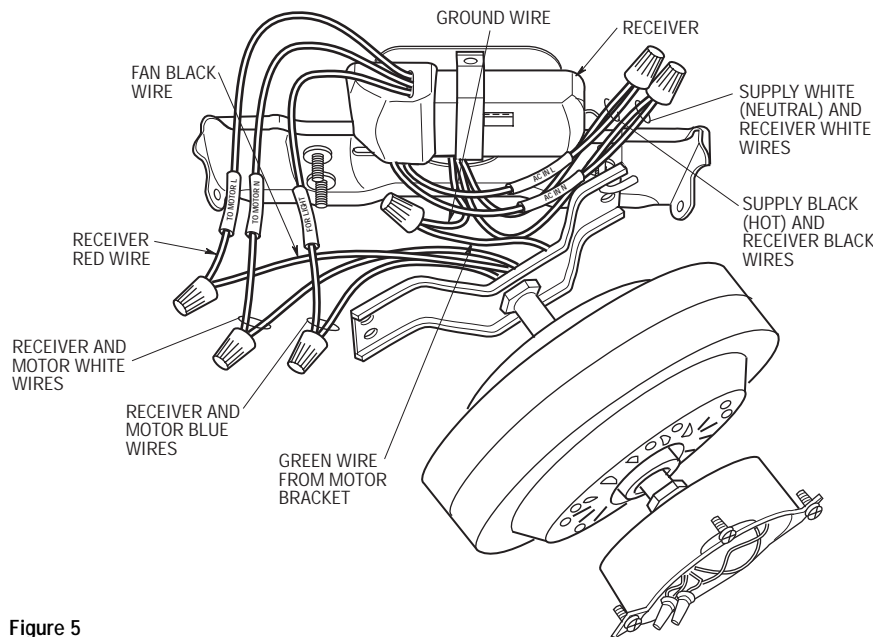

Figure 5
- 5. Refer to Figures 5 and 6 and connect the receiver wires to the supply wires and the fan motor wires as follows: